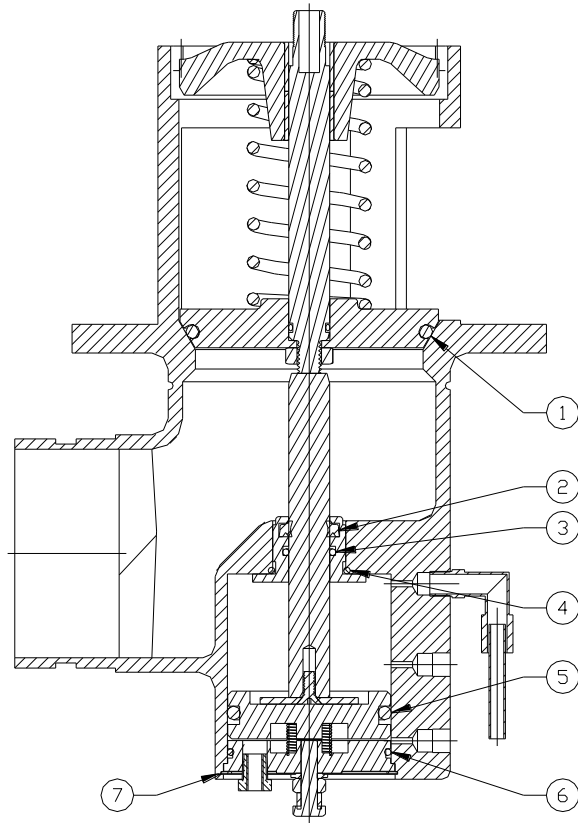

Figure 1 - 3" Emergency Valve Section View
1. Review Figure 1 before disassembling the valve
2. Remove retaining ring (7). This will allow the bottom cap to then be removed.
4. Remove wiper seal (2) and o-rings (3) & (4) from inside and outside of gland nut and replace with new o-rings from kit.
5. Apply lubricant (8) to wiper seal (2), internal gland o-ring (3), external gland o-ring (4), and shaft.
7. Remove blue fluorosilicone o-ring (5) from piston being careful not to scratch the o-ring groove, and replace with new o-ring from kit.
8. Remove end cap o-ring (6), being careful not to scratch o-ring groove, and replace with new o-ring from kit.
9. Apply lubricant (8) to fluorosilicone o-ring (5), end cap o-ring (6), and bore. Re-install piston, spring, cap and retaining ring (7).
11. Remove spring and poppet. Remove poppet o-ring (1), being careful not to scratch the o-ring groove, and replace with new o-ring from kit.